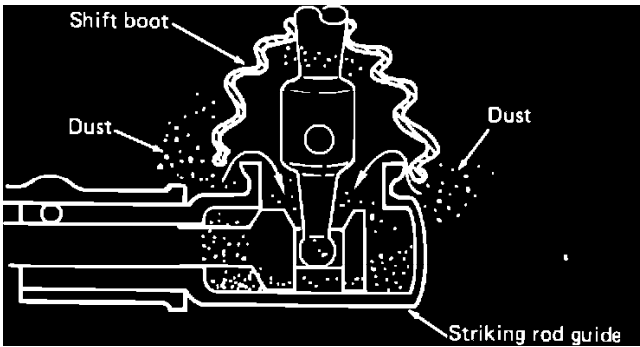

FIGURE 1
1. Remove antenna nut and base. (Figure 1)
The shift boot on some 720 trucks with the 71B manual transmission may become loose due to oil and/or ozone contamination. When this condition occurs, dust and water may enter the transmission through the striking rod guide (see Figure 1).